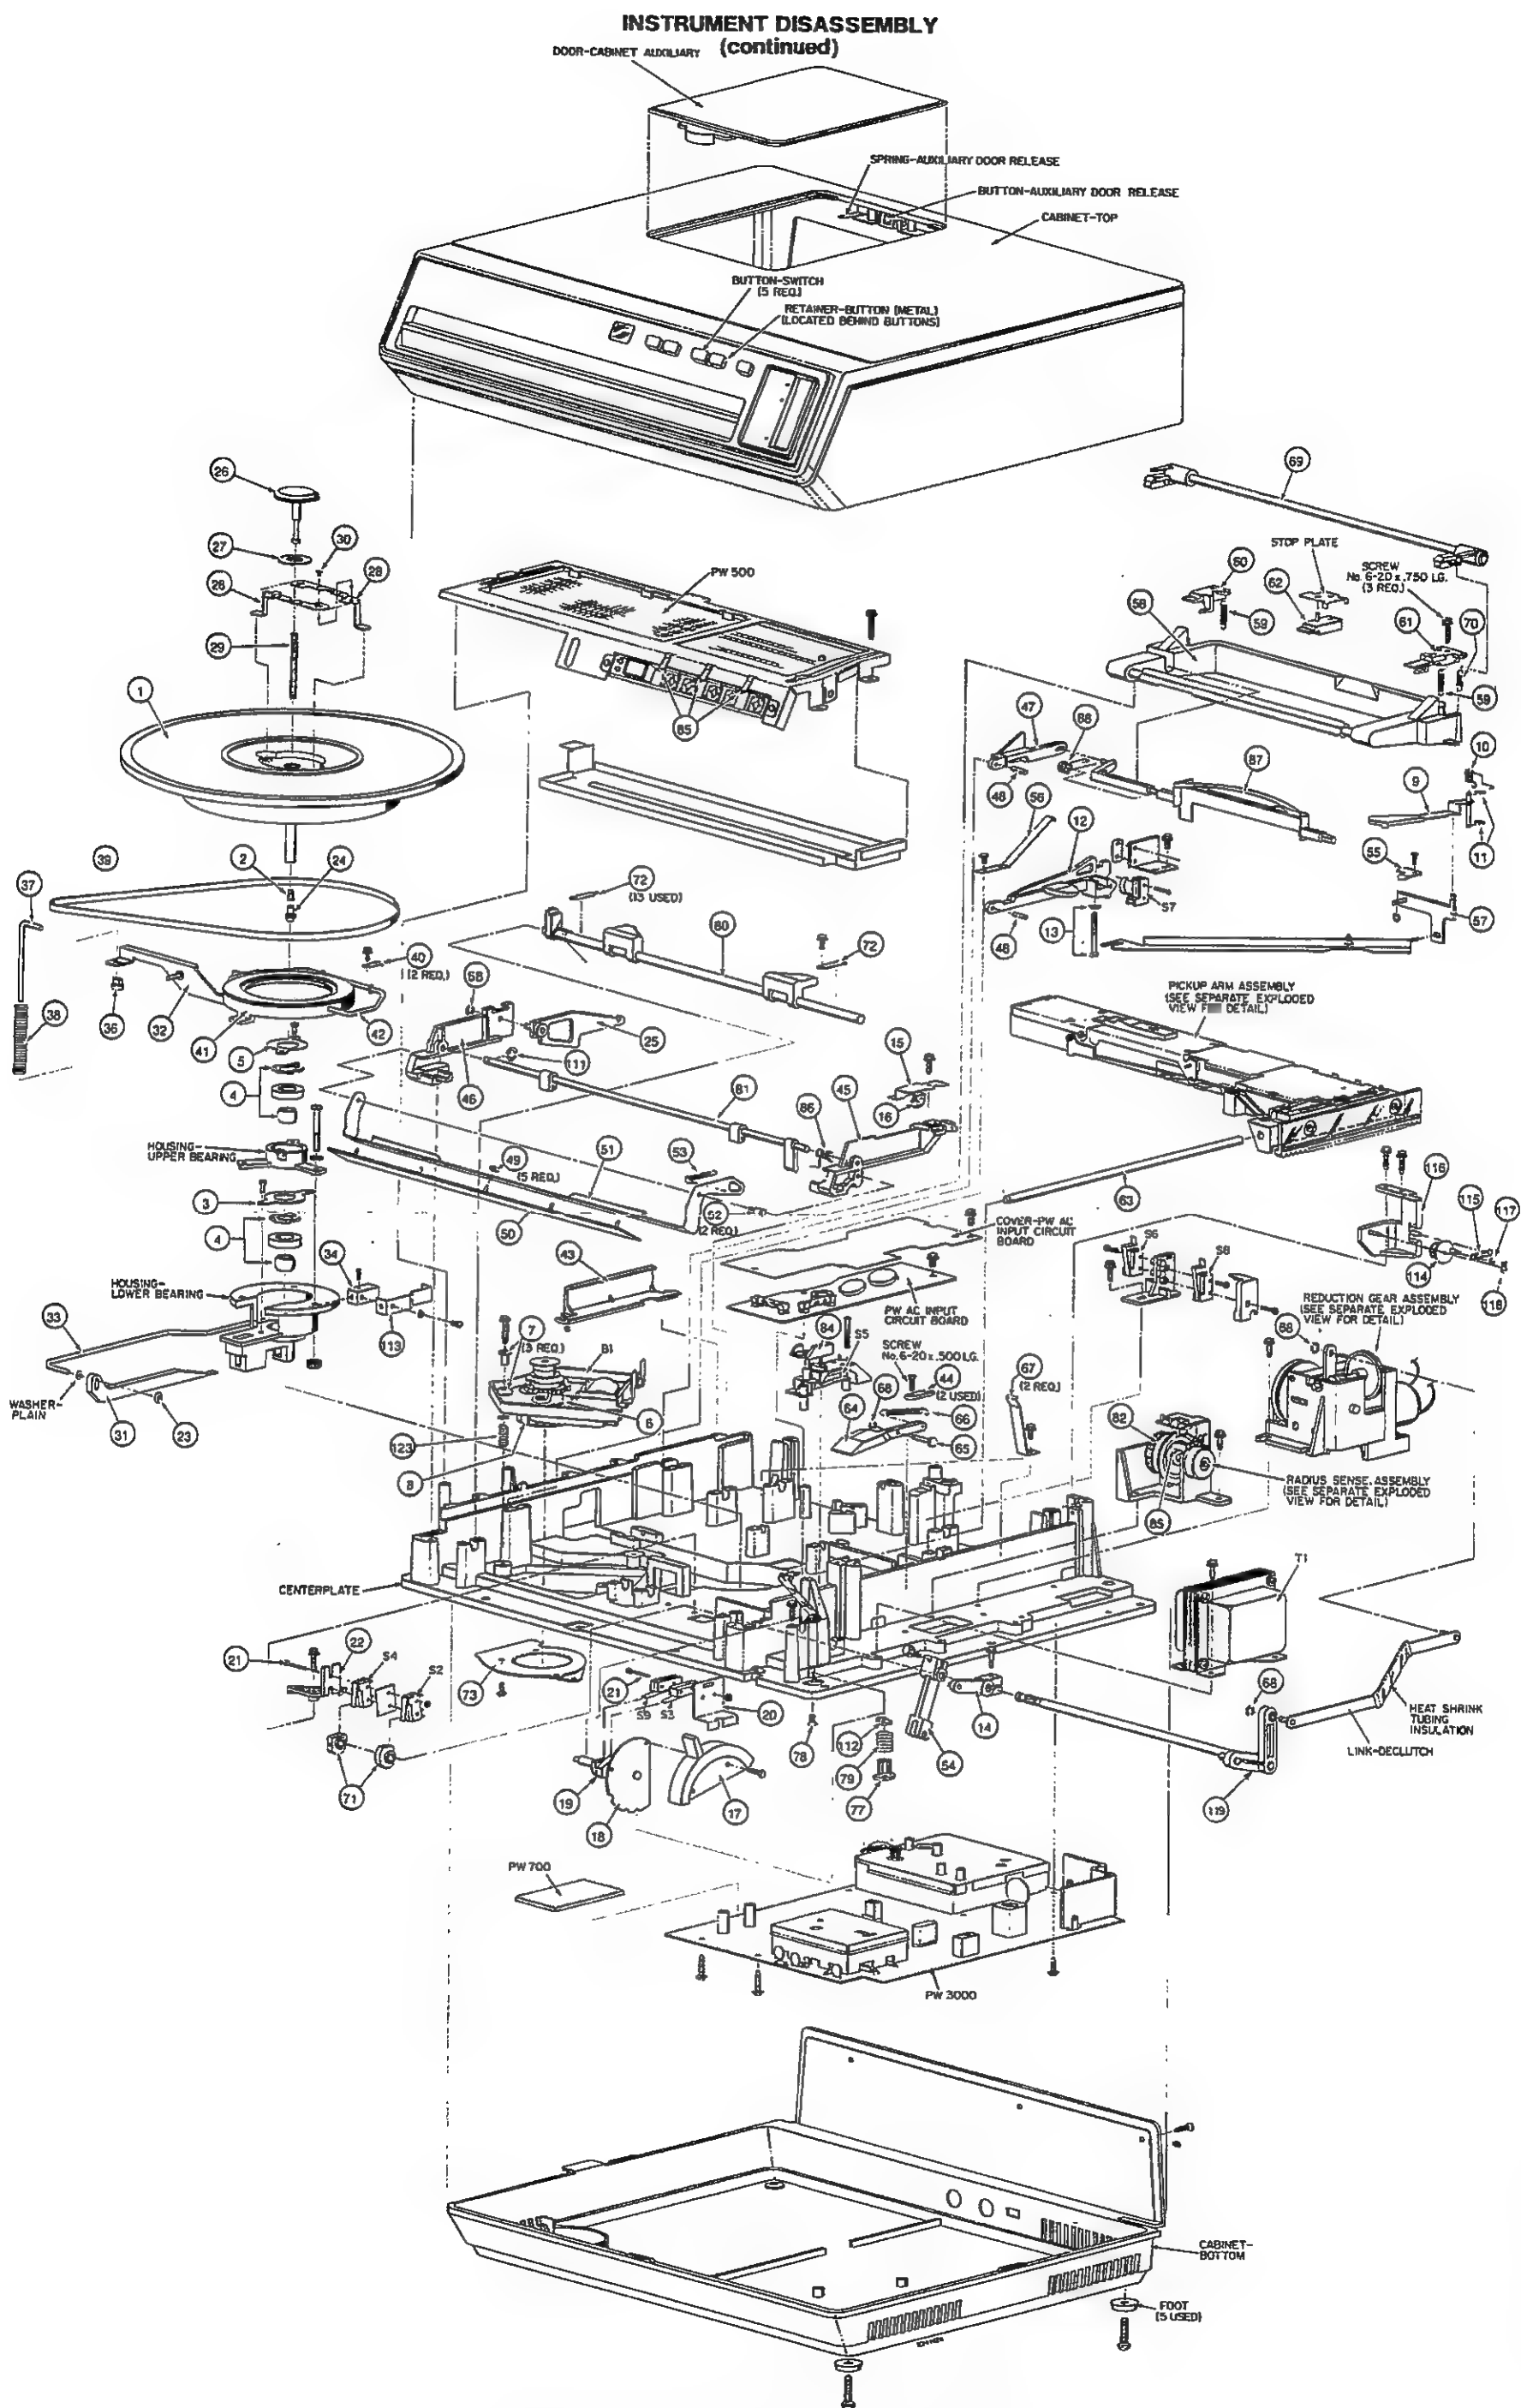
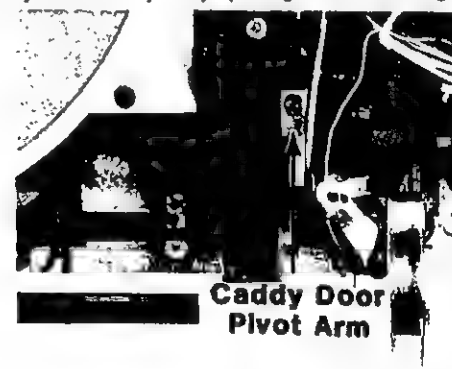

Fig. 2-13. — SFT 100 Mechanical Exploded View
Fig. 3-3. Caddy Door Actuating Pivot Arm
3. Position pivot arm so that the turntable shaft follower (item 24) is resting on the flat surface (highest level) of the slider cam (item 31). Tighten hex head screw in pivot arm (Fig. 2-13).
4. Place function lever in "LOAD" position, check that turntable shaft follower is resting on the flat surface (lowest level) of the slider Cam (item 31).
**NOTE:** The turntable shaft follower (item 24) must not rest on the slope portion of the slider Cam (item 31) in either the "PLAY" or "LOAD" mode of operation.
2. Loosen 1/4" hex head screw in caddy door actuating pivot arm (item 14) Figs. 3-3 & 2-13.
3. Position pivot arm so that caddy door (item 51) just clears caddy entry. Tighten 1/4" hex head screw.
4. Place Function lever in "PLAY" position. Check that caddy entry door (item 51) blocks caddy entry.
2. If gauge moves to highest step — Remove yoke assembly and spindle, lower turntable height by adjusting turntable height adjust screw counterclockwise (item 2, Fig. 2-13). Replace spindle and yoke assembly.